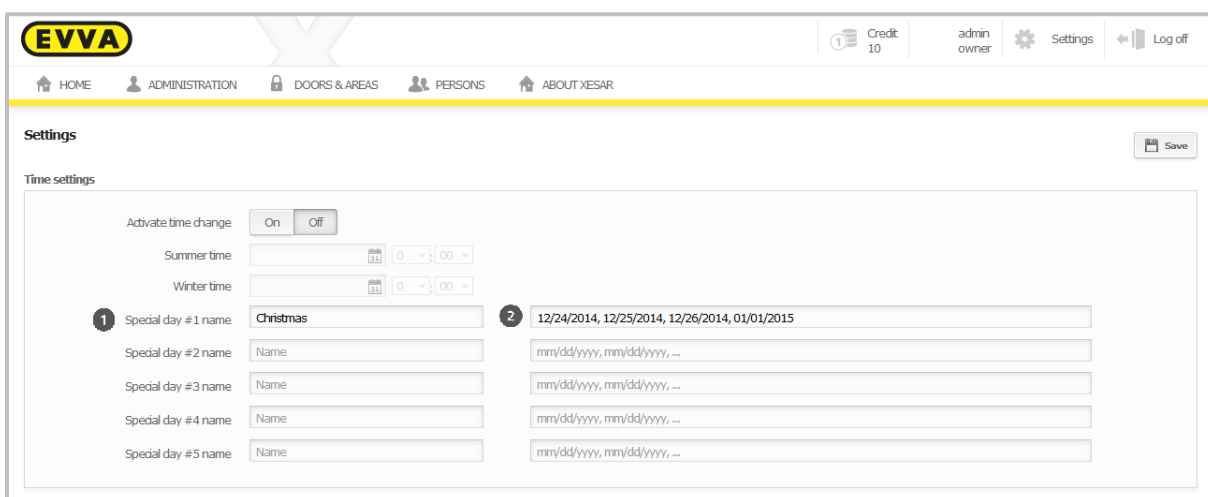

Figure 96: Configuring special days
- REF\_Ref395703831 Wh W\* MERGEFORMAT Abbildung 96: Daueröffnung Zeit-
- You can specify any designation for the special day. Enter the desired description in the corresponding field, in this case "Christmas" ❶ (Figure 96: Configuring special days).
In total, you can assign fifty days ❷ (Figure 96: Configuring special days), for instance you can assign fifty data records to a special day or five special days with ten data records
(Figure 96: Configuring special days) to **activate** the special day function.
As a result, office mode on the previously specified days 24.12.2014 - 26.12.2014 (refer to Figure 96: Configuring special days) is **automatically deactivated** as you did not specify automatic office mode on the "Christmas" special days and special days take precedence over "normal" automatic office modes.